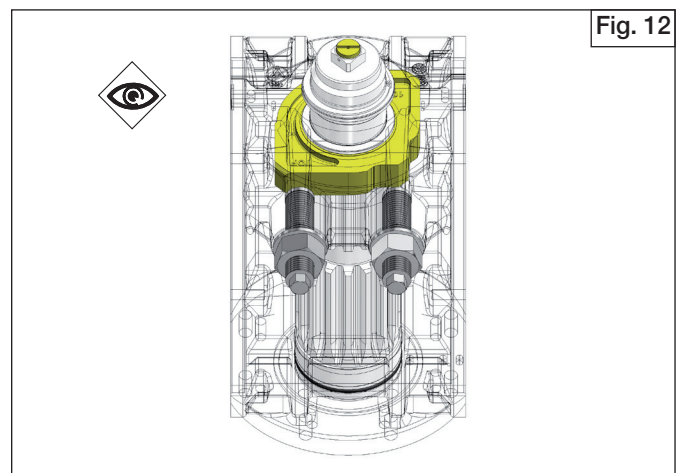

Fig. 12
- Ensure that the octi-cam is in the right position as shown in figure 12.